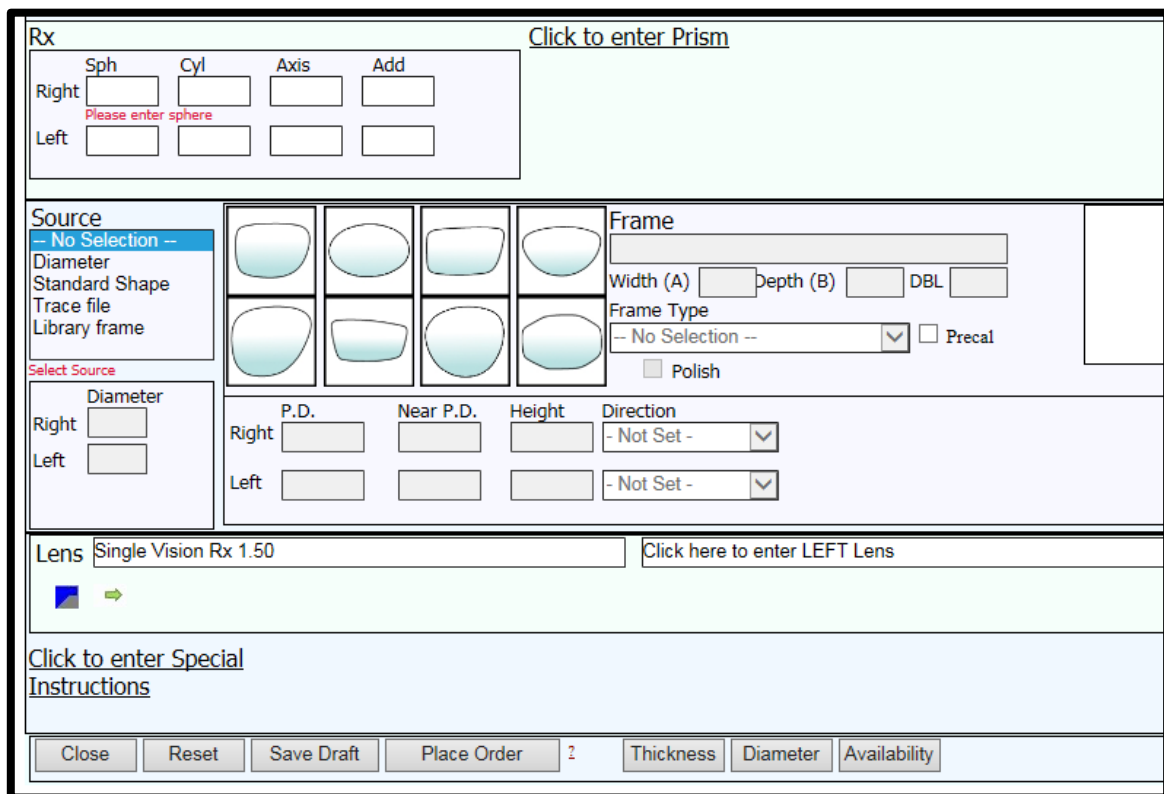

Fig 14.0
23. When you press the [Accept] button you will be taken back to the order screen (see fig 14.0)